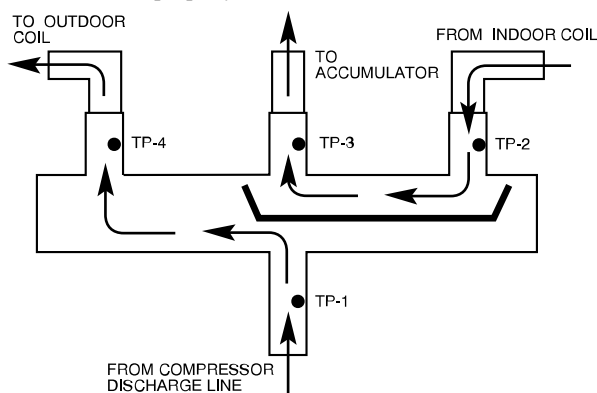
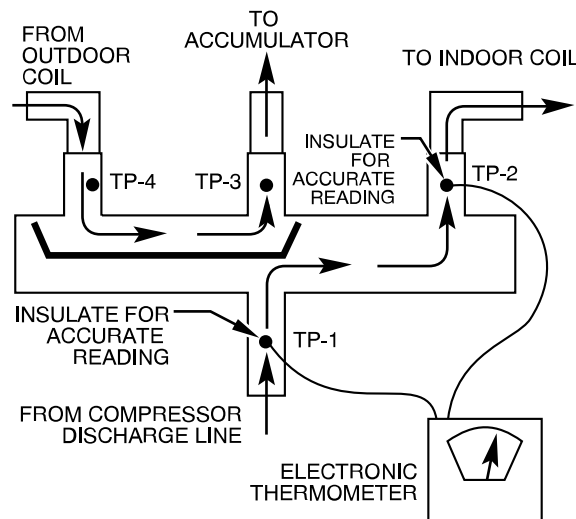

Fig. 12 – Reversing Valve (Cooling Mode or Defrost Mode, Solenoid Energized) ^{A10J89}
Fig. 13 – Reversing Valve (Heating Mode, Solenoid De-Energized) ^{A10I88}
Using a remote measuring device, check inlet and outlet line temperatures. DO NOT touch lines. If reversing valve is operating normally, inlet and outlet temperatures on appropriate lines should be close to each other. Any difference would be due to heat loss or gain across valve body. Temperatures are best checked with a remote reading electronic-type thermometer with multiple probes. Route thermocouple leads to inside of coil area through service valve mounting plate area underneath coil. Fig. 12 and Fig. 13 show test points (TP) on reversing valve for recording temperatures. Insulate points for more accurate reading.